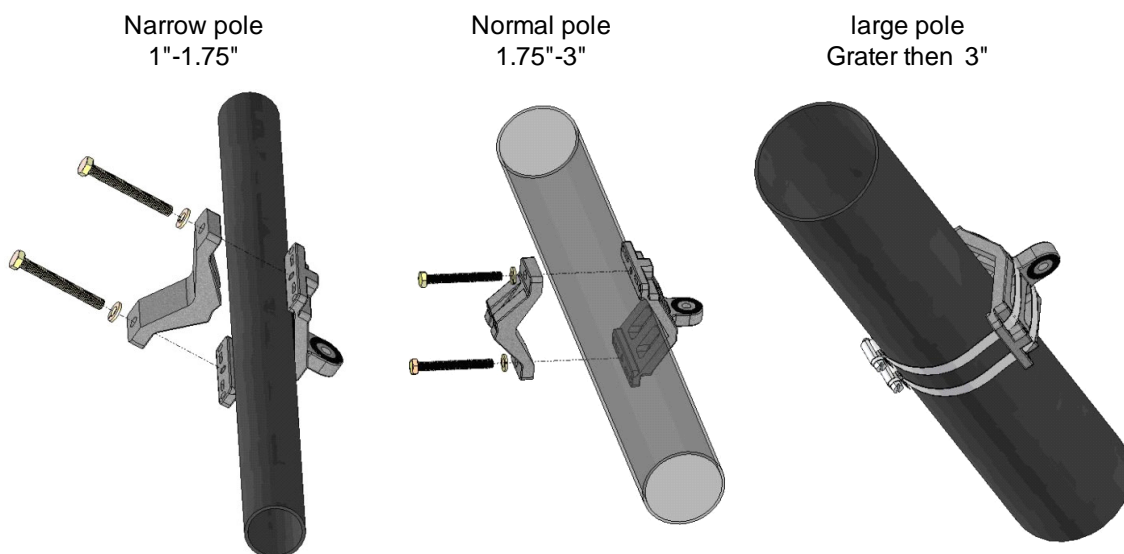

Figure 2: Pole Bracket Assembly
2. Installation of the mounting brackets to a streetlight arm or a pole differs according to the width of the pole, as illustrated in Figure 2.